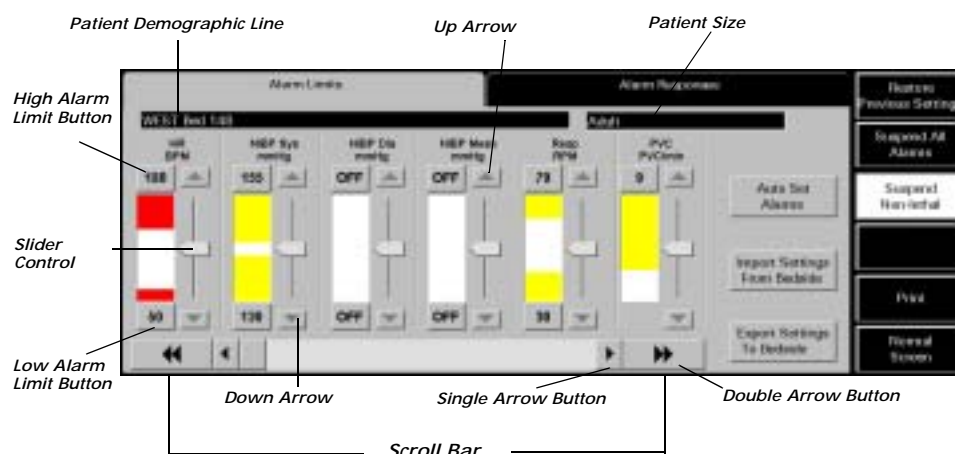

FIGURE 6-2 Alarm Limits Tab
3. The **Alarm Limits** (FIGURE 6-2) and the **Alarm Responses** (FIGURE 6-3) tabs are shown after the correct password is entered. For additional information about alarm limits and alarm responses, refer to "Alarm Limits Tab (Patient)" on page 6-4 and "Alarm Responses Tab (Patient)" on page 6-9.
The Patient **Alarm Limits** tab (FIGURE 6-2) adjusts patient alarm limit settings.